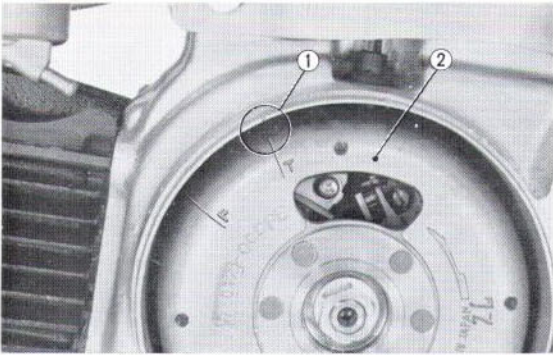

Fig. 1.8 ① Timing index mark ② Flywheel
1. Remove the dynamo cover and align the timing mark "T" on the flywheel with the timing index mark on the crankcase. (Fig. 1.8)